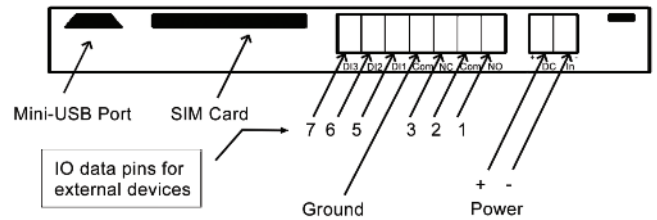

Figure 7: Electrical Connections.
- Connect the White wire to pin 6 on the electrical port panel (see Figure 7 above).